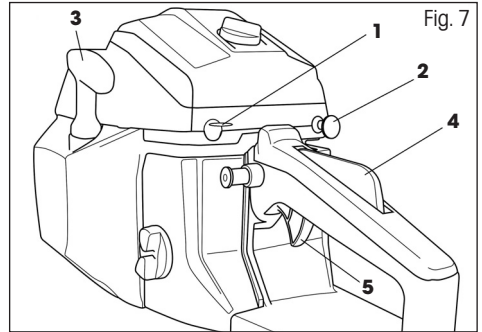

Fig. 7
1. Set the main power switch to the top position (see Fig. 7, point 1)
2. Pull out the choke lever (Fig. 7, point 2) but do not touch the throttle trigger.
4. At this point, push the choke lever back in (Fig. 7, point 2) and start the engine by repeatedly pulling on the starting cord.
- Set the main power switch to the top position (see Fig. 7, point 1)
- To increase speed, first use the palm of your hand to push down the throttle safety switch (Fig. 7, point 4) and then use your finger to pull on the throttle trigger (Fig. 7, point 5)
- Release the throttle trigger (Fig. 7, point 5) and switch the main power switch to the "Stop" position (Fig. 1, point 1).